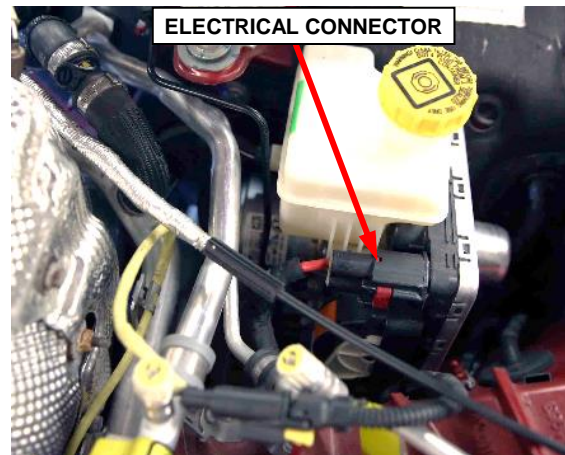

Figure 40 – IBS control module
55. Disconnect the electrical connector from the Integrated Brake System (IBS) control module (Figure 40).
71. Connect the electrical connector to the Integrated Brake System (IBS) control module (Figure 40).